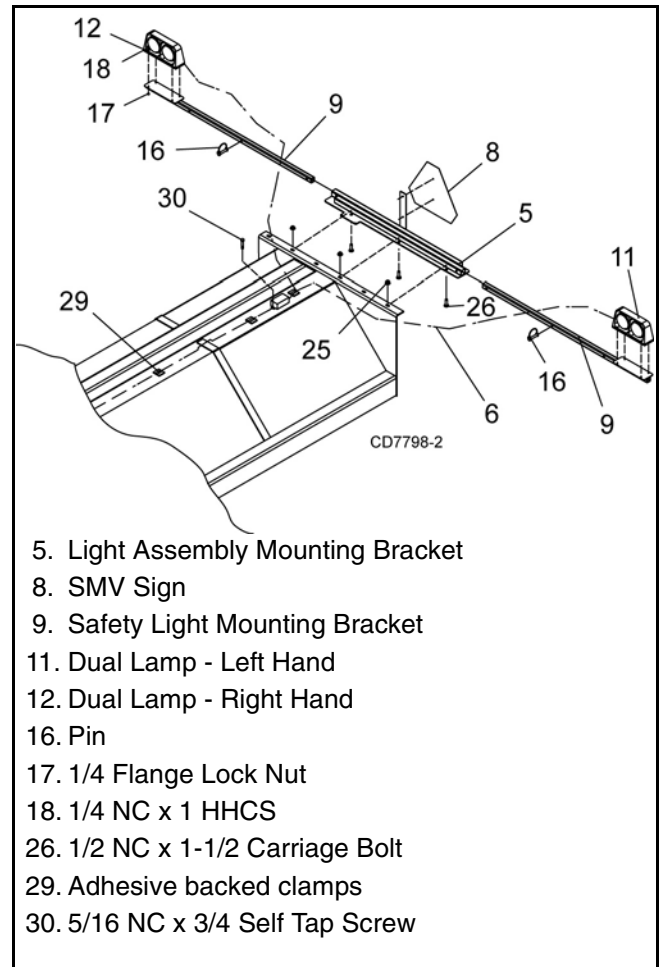

Figure 48. Safety Light Installed
2. Attach dual safety lights (Figure 48) to safety light mounting brackets (9) using cap screws (17) and lock nuts (18).